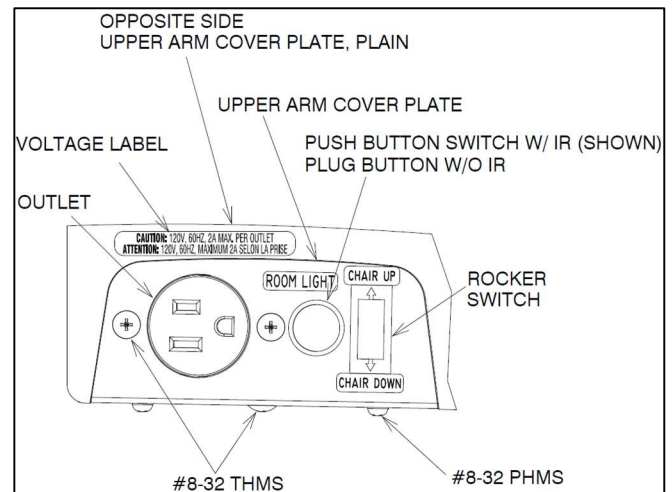
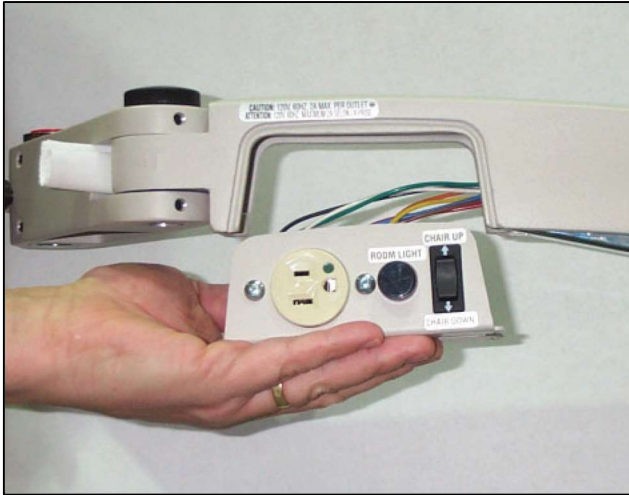

FIGURE 5
FIGURE 5A
2.9.1.2. Loosen the three Set Screws that lock the Arm Extension in place at the end of the Slit Lamp Arm. Loosen the Black Handle on top of the Slit Lamp Arm. Rotate Arm Extension so it is approximately 60 degrees from the side of the Upper Arm of the Slit Lamp Arm and tighten the Set Screws. Tighten the Black Handle on top of the Slit Lamp Arm. Remove Adjustable Handle and Plug Button from the Arm Extension and place them on the opposite side they were on. (See Figure 5) and (See Figures 5A, 5B, 5C, 5D details).
(FIGURES 5A-5D) REFERENCE TO CHANGING THE INSTRUMENT STAND FROM A RIGHT-HAND TO A LEFT-HANDED UNIT